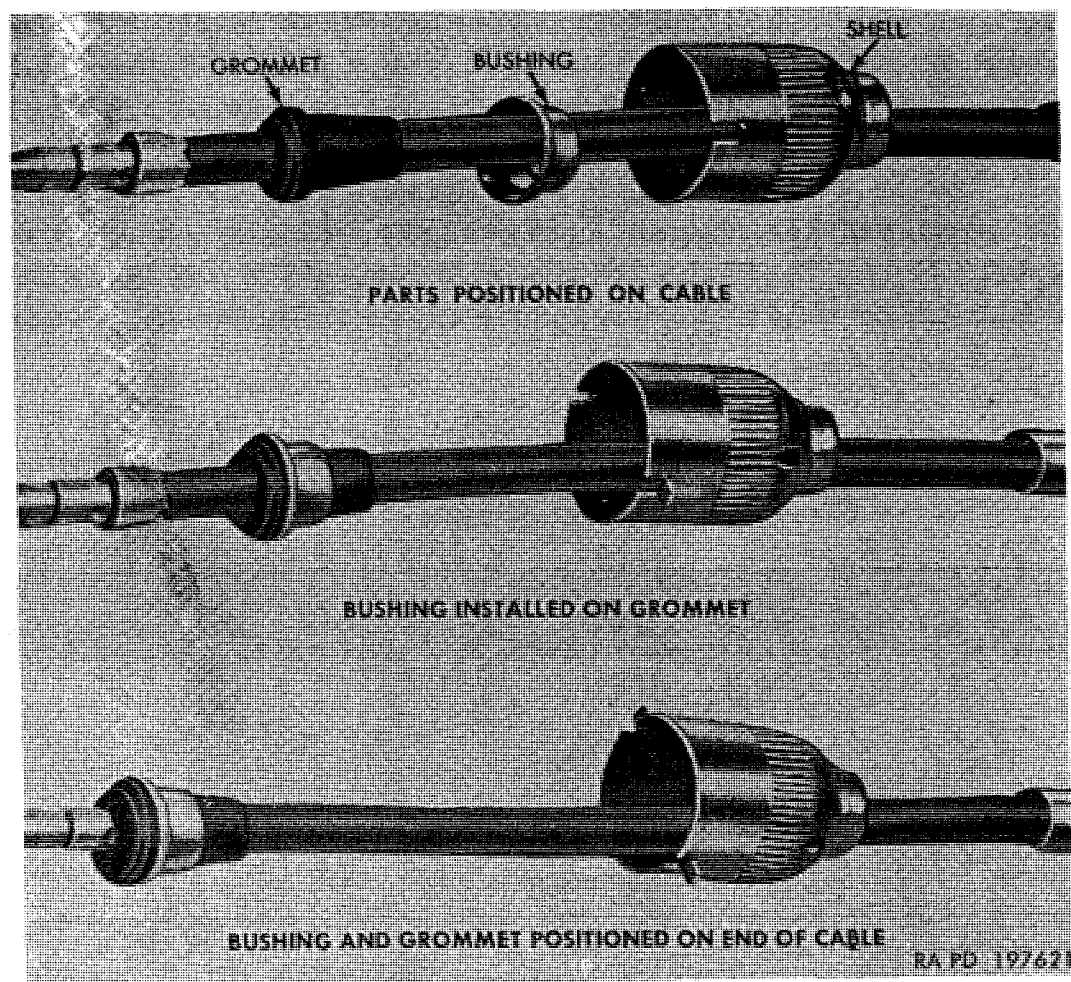

Figure 170. Installation of connector components.
- (1) To facilitate assembling grommet on cable, apply a thin coat of hydraulic brake fluid to end of cable.
- (2) Place connector shell, bushing, and grommet on end of cable in positions shown in upper view in figure 170.
- (3) Slide bushing against shoulder on grommet as shown in center view in figure 170.
- (4) Grip grommet and bushing between thumb and finger and pull cable back through grommet until outer end of grommet just covers outer shoulder on cable terminal as shown in lower view in figure 170.
- (5) Wipe hydraulic brake fluid off cable terminal after completing assembly.